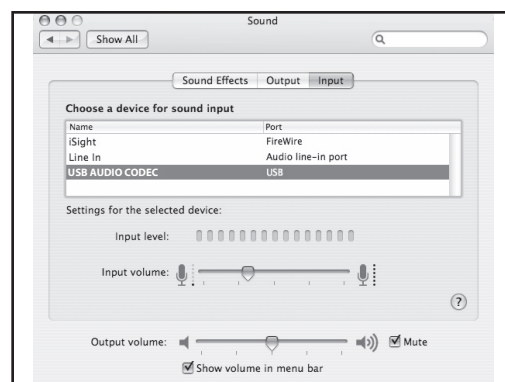

Figure 10
4. Now, click in the Input tab and select USB Audio Codec (figure 10). You may notice that the Volume slider sets itself to the full level. This will allow you to have full range using the L Series hardware input level controls.